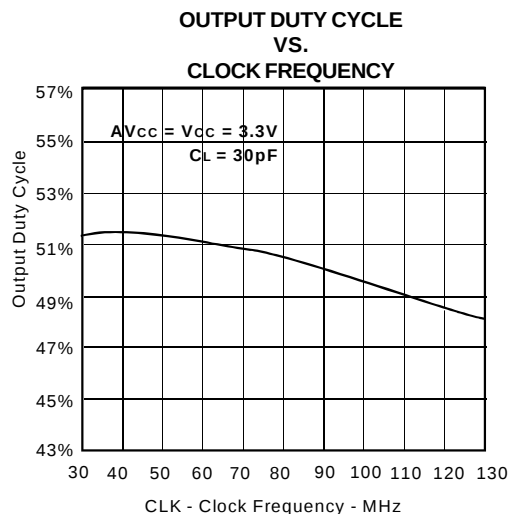

FIGURE 4
- For I_{CC} of AV_{CC}, see Figure 4.